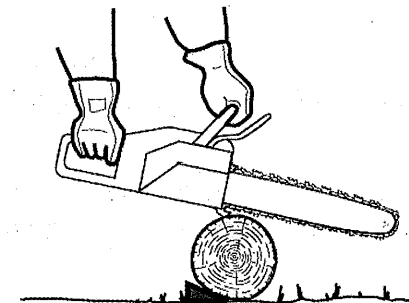

Fig. 42
6. If the wood diameter is large enough for you to insert a soft bucking wedge without touching the chain, you should use the wedge to hold the cut open to prevent pinching (Fig. 42).